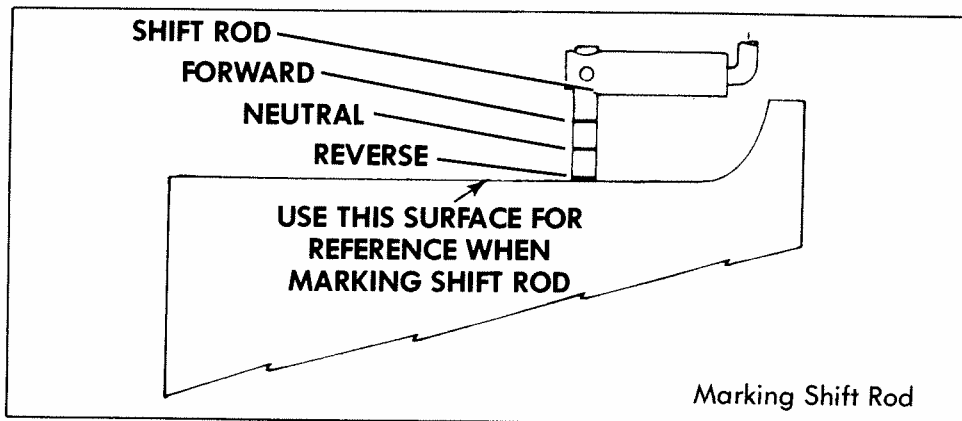

FIGURE 5
4. Mark location of shift rod where it emerges from the motor leg. (See Figure 5.)
6. Mark location of shift rod where it emerges from motor leg. (See Figure 5.)